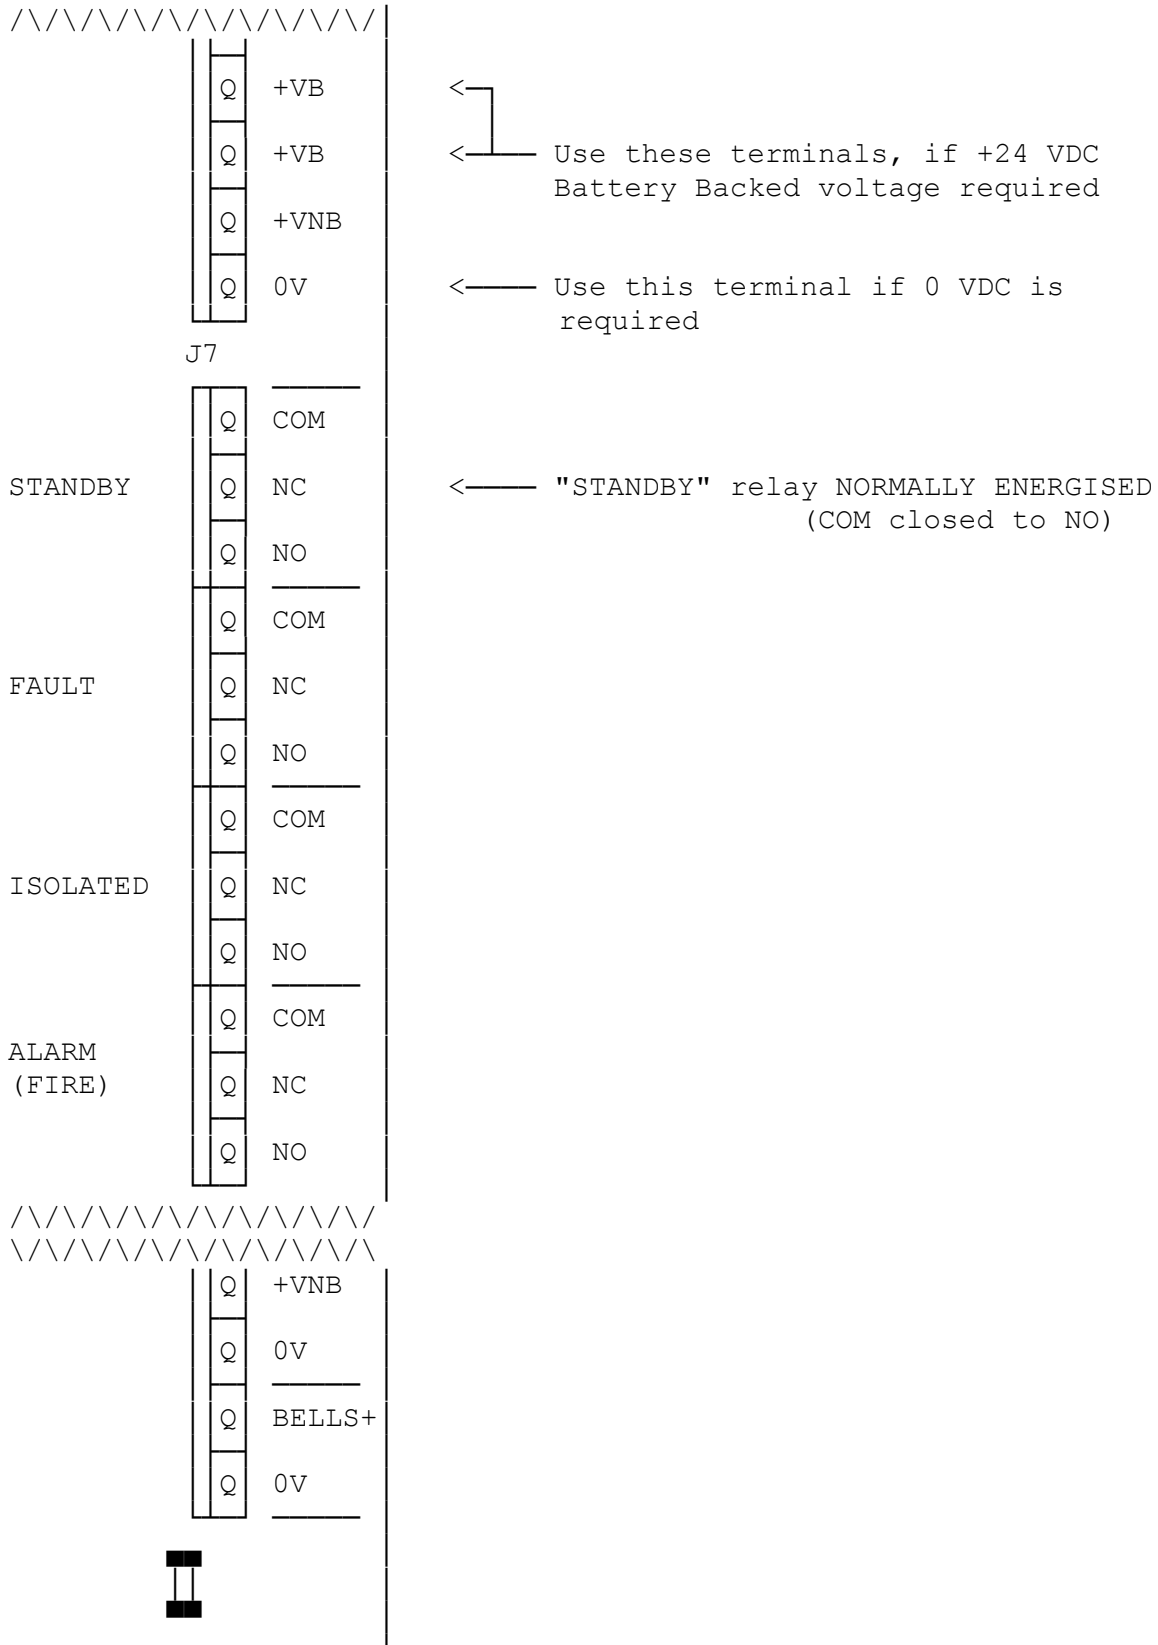

Figure 2.17
The F08 provides four (4) sets of voltage free, changeover relay contacts at connector J7, as shown in Figure 2.17.